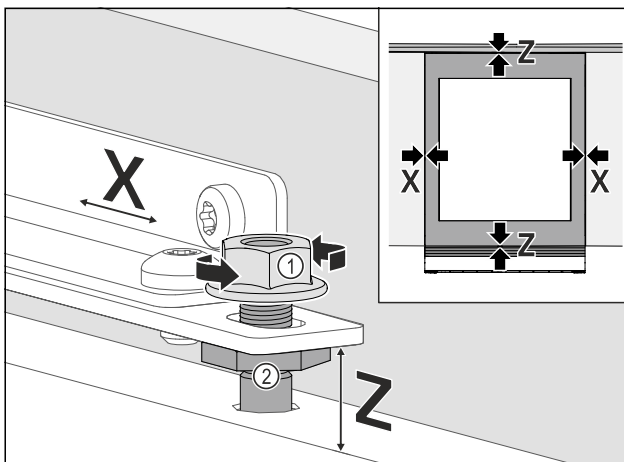

Fig. 97
- Align the unit door laterally: Loosen the lock nut Fig. 97 (1), move the unit door in X direction.
- Tighten the lock nuts Fig. 97 (1).
- Align the height Z and lateral inclination of the unit door: Set the adjustment bolt Fig. 97 (2).